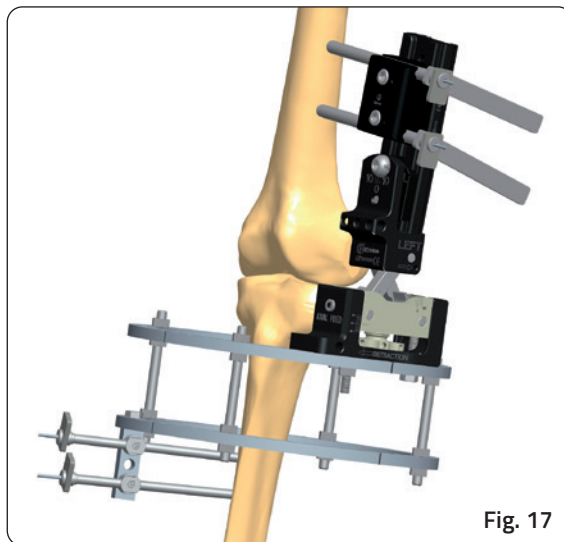

Fig. 17
- Remove the reference wire (Fig. 17).